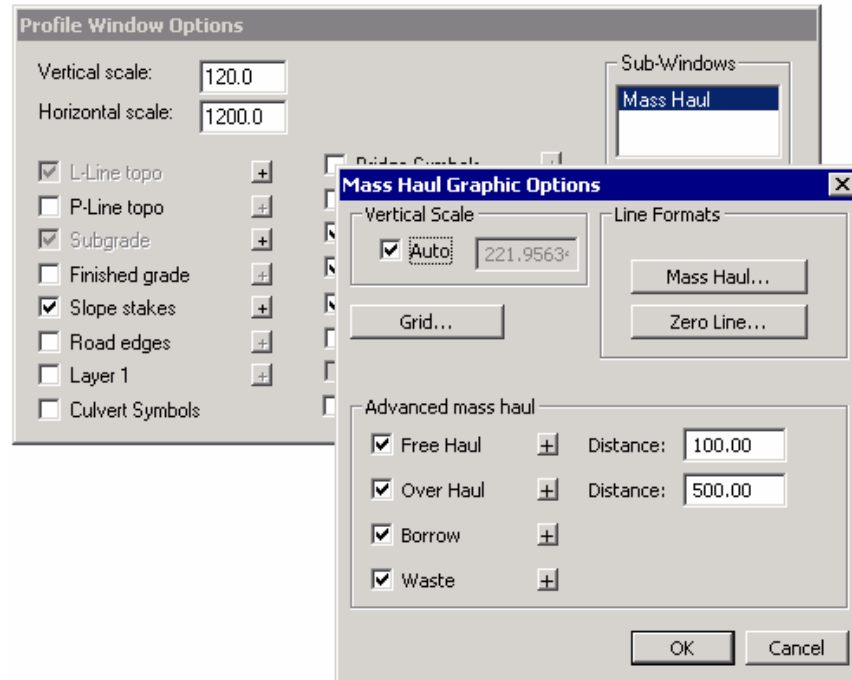

Figure 6.8: Mass Haul Graphic Options Dialog
3. With the Profile Window maximized, choose menu View | Profile Options. In the Sub-windows group select Mass Haul and then click on the Options button to open the Mass Haul Graphic Options Dialog box as shown in Figure 6.8.